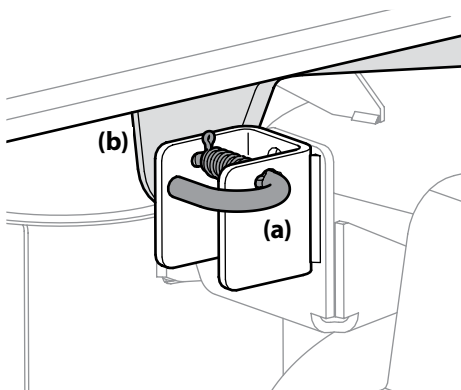

Figure 4-12
7. Locate the LH and RH deck release pins (a) on each side of the deck. Pull the deck release pins (a) outward and release the deck from the LH and RH deck lift arms (b). See Figure 4-12.
4. Pull the deck release pins outward and maneuver the deck as necessary to align the holes in the deck lift arms with the pins. Refer to Figure 4-12.